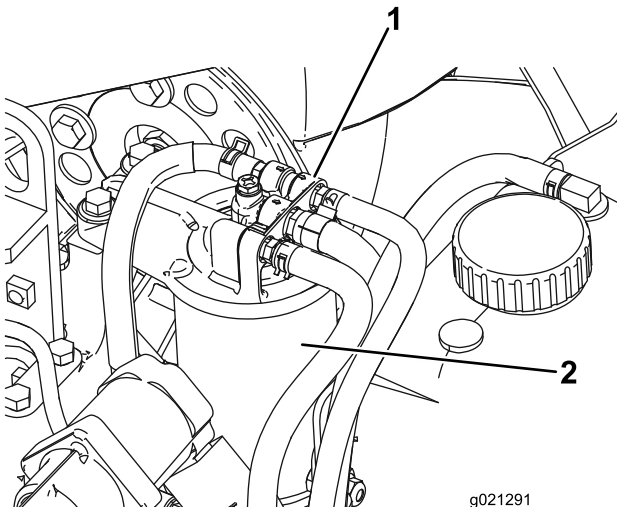

Figure 38
1. Clean the area around the fuel-filter head (Figure 38).
2. Remove the filter and clean the filter head mounting surface (Figure 38).